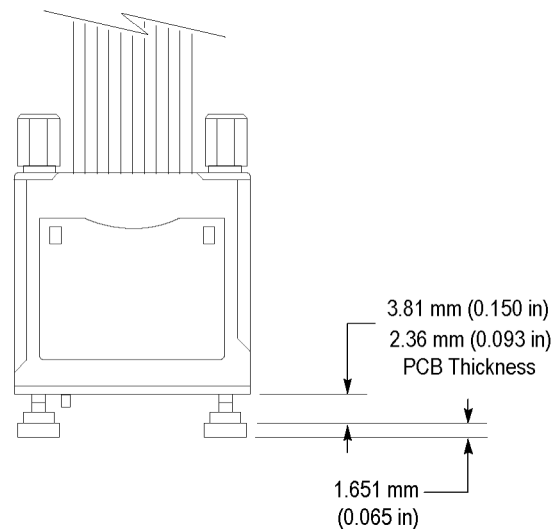

Figure 26: Press-in Nut design
- Press-in nut—If the PCB thickness is 2.36 mm to 3.81 mm (0.093 in to 0.150 in), use the press-in nut with the thick elastomer. (See Figure 26 on page 56.)